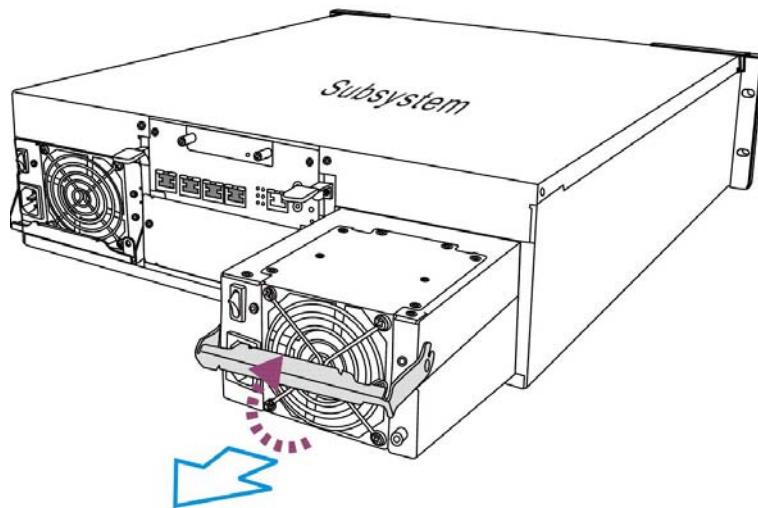

Figure 5-11: Removing the PSU Module
Step 4. **Remove the PSU module** by grabbing the rejection handle and pulling the handle upwards. The rejection handle should gracefully disconnect the PSU from the backplane connectors. Once dislodged, gently pull the PSU module out of the subsystem. If the subsystem is mounted in a rackmount rack, use another hand to support its weight while removing the module. (See *Figure 5-11*)